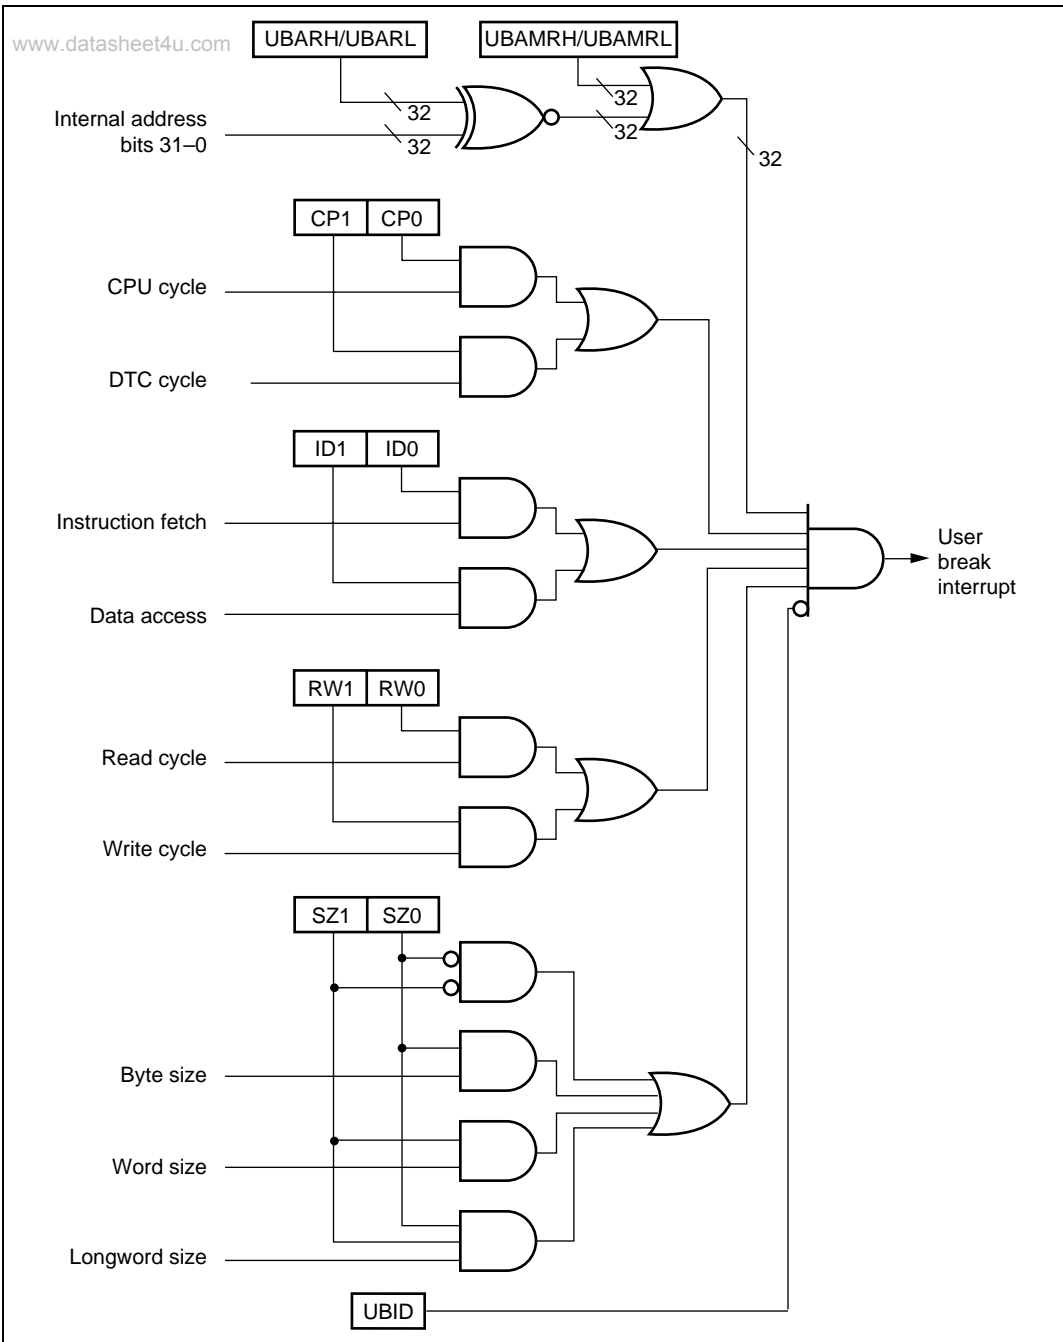

Figure 7.2 Break Condition Determination Method
2. The UBC uses the method shown in figure 7.2 to determine whether set conditions have been satisfied or not. When the set conditions are satisfied, the UBC sends a user break interrupt request signal to the interrupt controller (INTC). At the same time, a condition match signal is output at the $\overline{\text{UBCTR}}\overline{\text{G}}$ pin with the pulse width set in bits CKS1 and CKS0.
3. The interrupt controller checks the accepted user break interrupt request signal's priority level. The user break interrupt has priority level 15, so it is accepted only if the interrupt mask level in bits I3–I0 in the status register (SR) is 14 or lower. When the I3–I0 bit level is 15, the user break interrupt cannot be accepted but it is held pending until user break interrupt exception processing can be carried out. Consequently, user break interrupts within NMI exception service routines cannot be accepted, since the I3–I0 bit level is 15. However, if the I3–I0 bit level is changed to 14 or lower at the start of the NMI exception service routine, user break interrupts become acceptable thereafter. See Section 6 Interrupt Controller (INTC) for the details on the handling of priority levels.